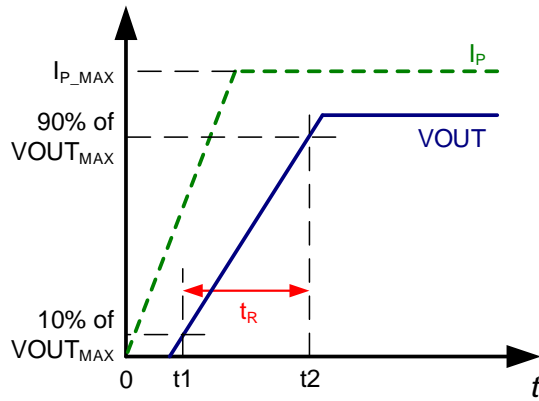

**Figure 6: Propagation Delay ( $t_{PD}$ )**
2.  $t_2$ :  $V_{OUT}$  reaches 20% of  $V_{OUT\_MAX}$  (see Figure 6).